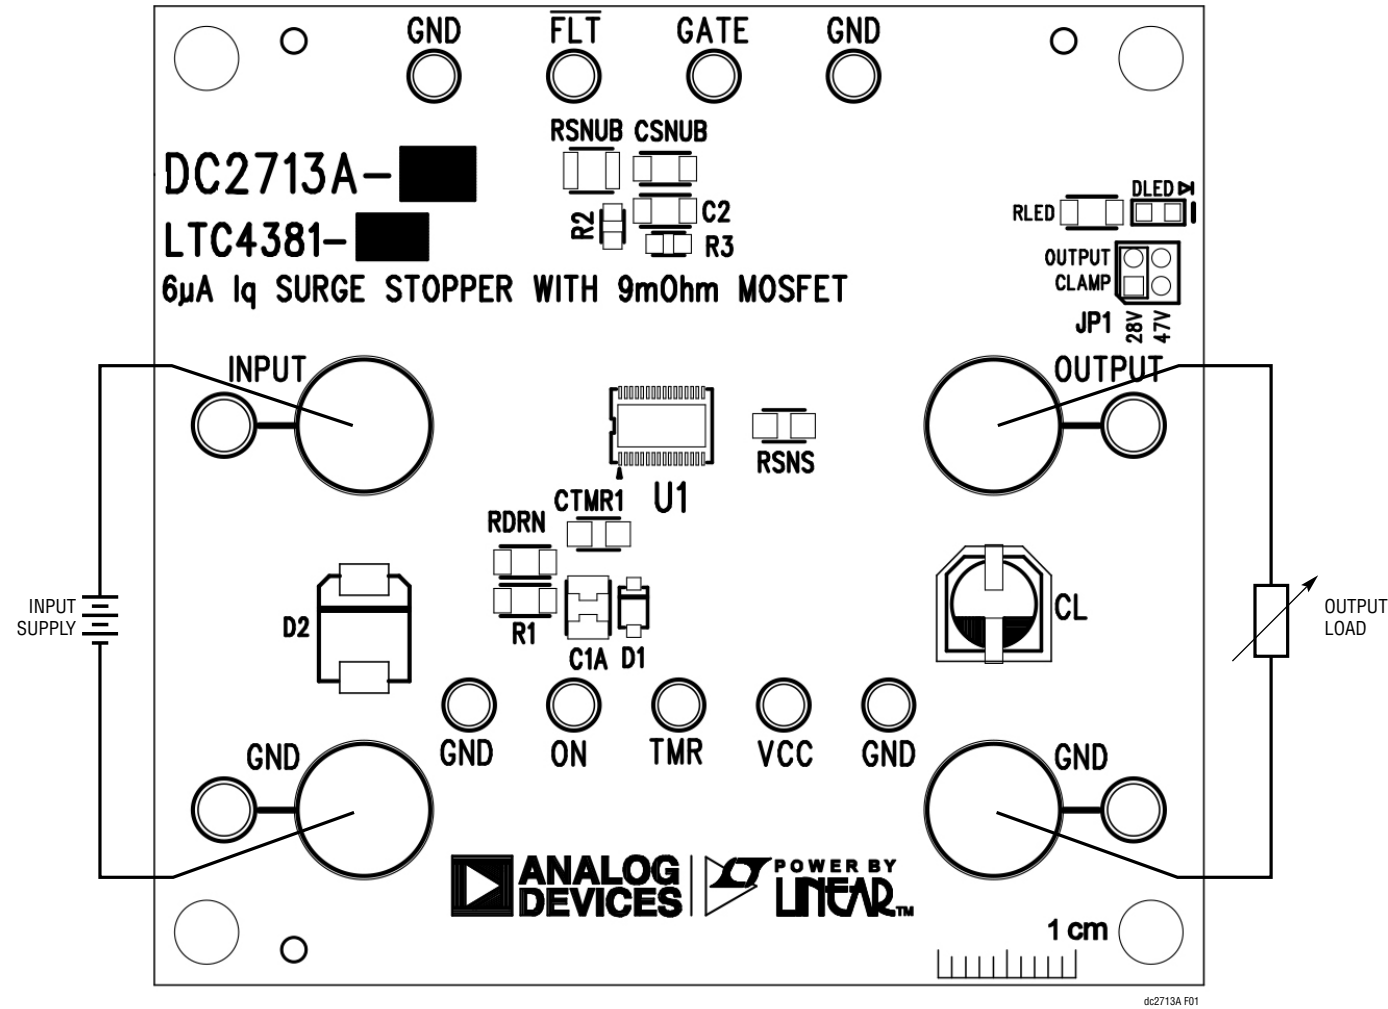

Figure 1. Measurement Equipment Setup
2. Connect a power supply to INPUT (through a diode for Step 4) and a load to OUTPUT (initially off) as shown in Figure 1. The small turrets do not need any connections. Applying input power, above 2.5V, turns on